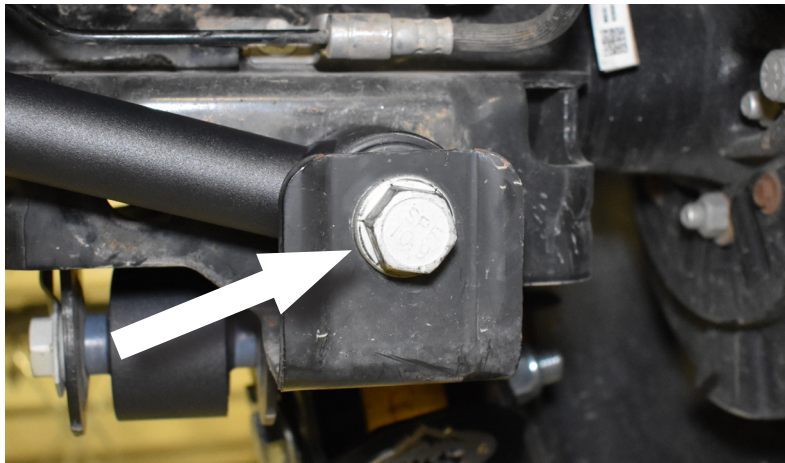

FIGURE 4
8. Remove jack stands and lower vehicle to ground. Install opposite end of the trackbar into the axle mount. **Fig 4.** If needed have a second person push on the body of the vehicle to to align the track bar sleeve with the hole in the bracket.